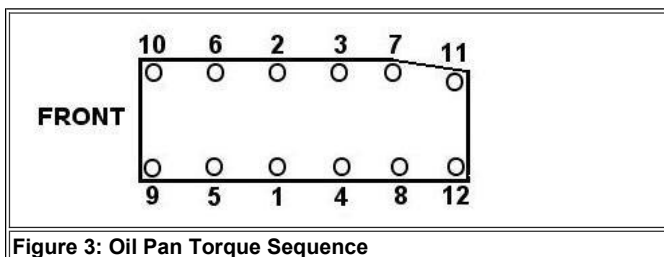

Figure 3: Oil Pan Torque Sequence
6. Torque the eight M8 bolts and four M8 nuts in the sequence shown in Figure 3 below to 22 ft-lbs (30 Nm).